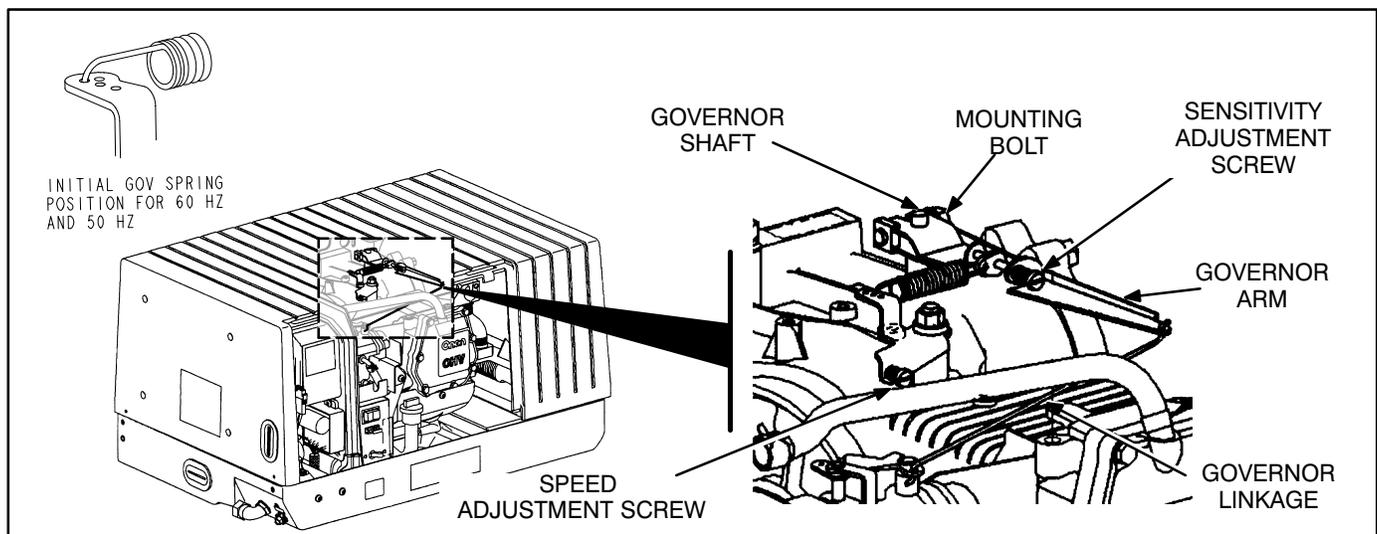

FIGURE 8-6. GOVERNOR ADJUSTMENTS
3. With the genset operating at no-load, turn the speed adjustment screw (Figure 8-6) on the governor linkage to obtain 62–63 Hz for a 60 Hz genset or 51.5–52.5 Hz for a 50 Hz genset. Turn the screw clockwise to increase speed and counterclockwise to decrease speed.